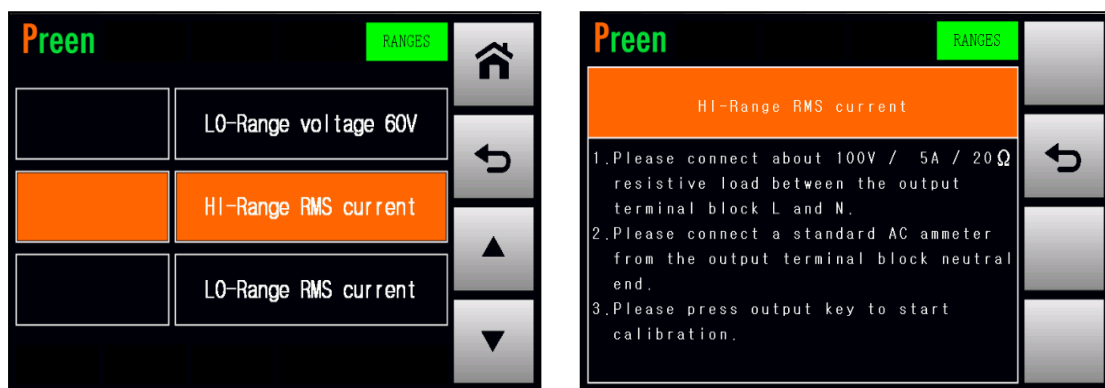

Figure 4.13 Enter into the page which calibrates the HI-Range RMS current
1. Press the item HI-Range RMS current repeatedly to enter into the page which calibrates the HI-Range RMS current (refer to Figure 4.13).